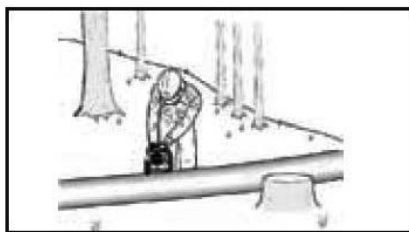

Fig. 4D
- **When bucking on a slope** always stand on the uphill side of the log, as illustrated in Fig. 4D. When “cutting through”, to maintain complete control release the cutting pressure near the end of the cut without relaxing your grip on the chain saw handles. Don’t let the chain contact the ground. After completing the cut, wait for the saw chain to stop before you move the chain saw. Always stop the motor before moving from tree to tree.